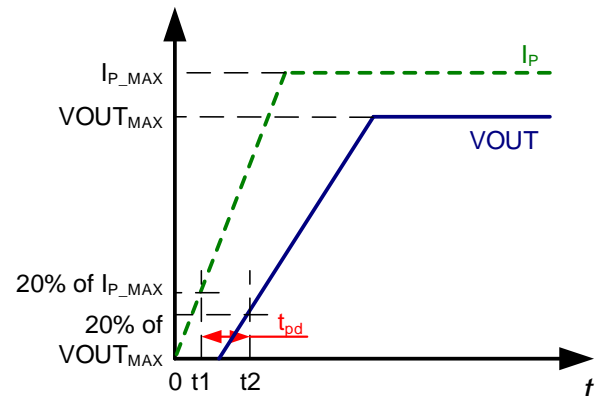

**Figure 5: Power On Time ( $t_{PO}$ )**
- $t2$ :  $V_{OUT}$  settles within ±10% of its steady state value under an applied primary current (see Figure 5).